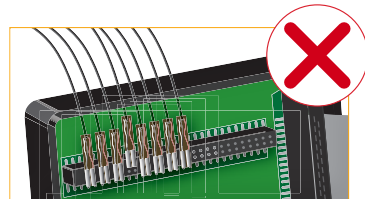

Figure 2
5. Carefully insert the new electrode. Ensure that the four metal teeth engage correctly. Avoid incorrectly positioned electrodes (see Figure 2 and 3).